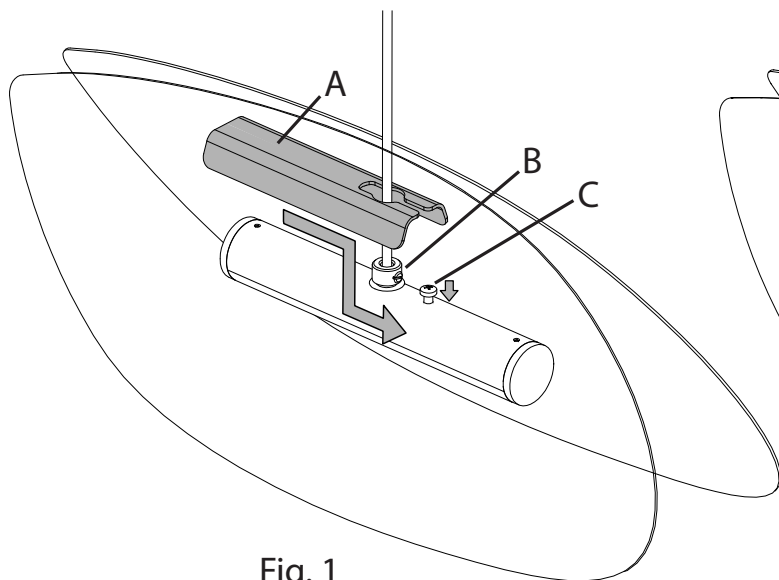
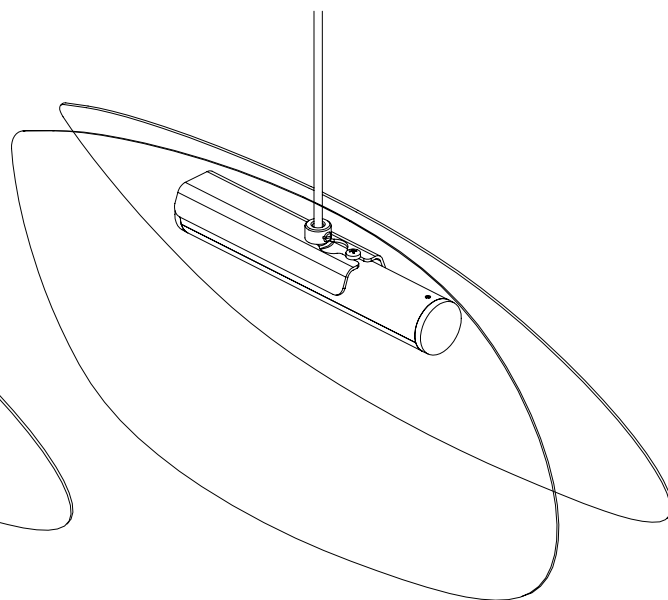

Fig. 1
Fig. 2
3. Fig. 1 - Install each shade by lowering the shade connector (A) over the cord collar (B), sliding it forward until it stops, then tightening the shade screw (C). If the shade connector can't move forward, first loosen the screw slightly. Fig. 2 shows completed shade.